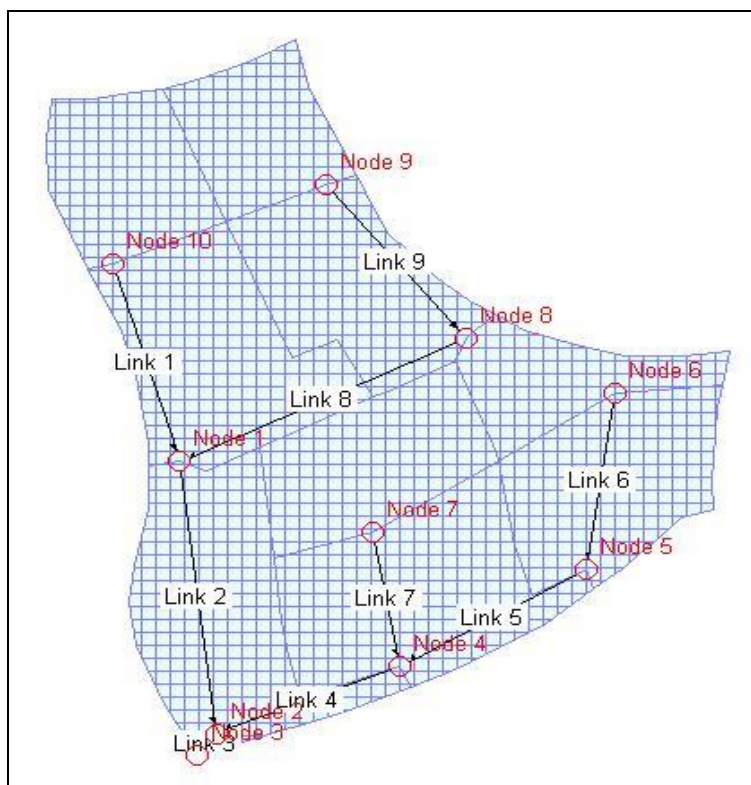

Figure 7-1 Cougar Estates Storm Drain Schematic from xpswmm
2. Your xpswmm window should now display an image similar to that shown in Figure 7-1.
3. Double click on the node labeled “Node 9” in Figure 7-1
5. Double click on the link labeled “Link 9” in Figure 7-1
8. Double click on the most downstream link in the network (Link 3 in Figure 7-1)
4. Double click on the most downstream link in the network (Link 3 in Figure 7-1)